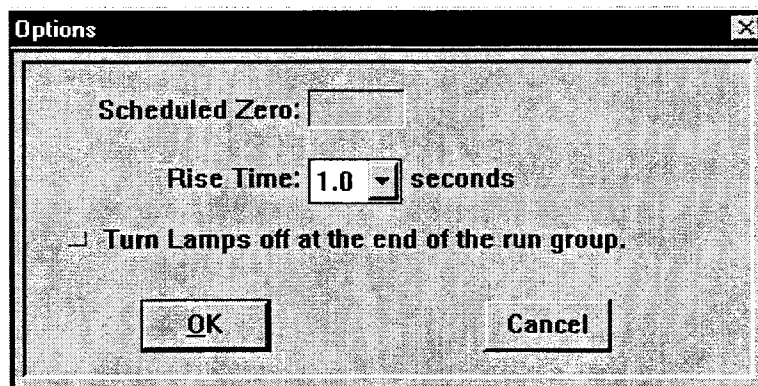

Figure 5-41 Options Screen—BioFocus 2000
The Options screen, shown in Figure 5-41, allows you to program an additional time point for re-zeroing the baseline during the analysis. Scheduled zero is entered as time in minutes. You can also select a rise time from a preset list of choices, ranging from 0 to 5 seconds. There is also a lamp turn-off feature that can be used at the end of an autosequence to extend lamp life.
7. Click **Options** to see the screen shown in Figure 5-41. Enter times for scheduled zeros, a rise time number, and whether you wish to turn off lamps at the end of a run. Click **OK** to save the information and return to the detector setup screen.